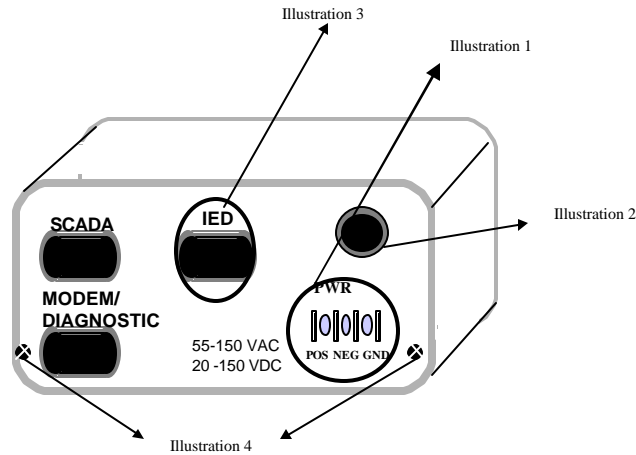

Figure 1A – Orion Table Top Connector Location
1. It is imperative to realize that the ORION is available in two formats, a 19” rack mount version and a Table Top version. Please refer to the appropriate diagrams when using this guide. Apply power to the universal power supply according to the markings on the unit as shown in Figure 1 or Figure 1A as depicted in illustration 1. The unit accepts voltages from 55 to 200 V a.c. or 20 to 280 V d.c.